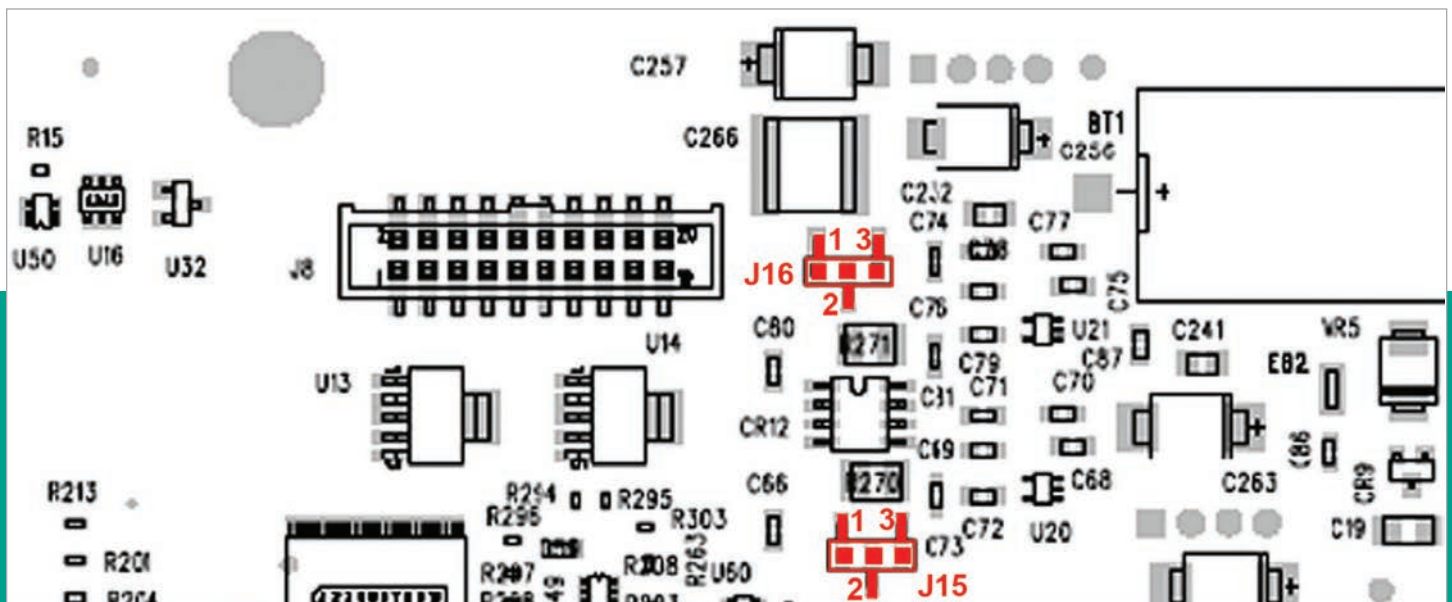

Figure 27: RS-485 mode termination - install jumpers at J15 and J16, pins 1 and 2
- Using long-nose pliers, move jumpers J15 and J16 from pins 2 and 3 (default setting from factory) to pins 1 and 2 (see *Figure 27* on page 28). J16 is the termination for port 1 and J15 is the termination for port 2. It is also recommended that basic ESD precautions such as grounded wrist straps be used for this procedure.
For multiple **Aurora H2O** units connected in daisy-chain fashion to the RS485 interface, it is important that the farthest unit away from the transmitting device be the only unit incorporating any termination (see *Figure 27* below). All other units must have jumpers J15 and J16 in positions 2 and 3 (default setting from the factory). For more details on RS-485 wiring or operation, refer to TIA/EIA-485-A specification.